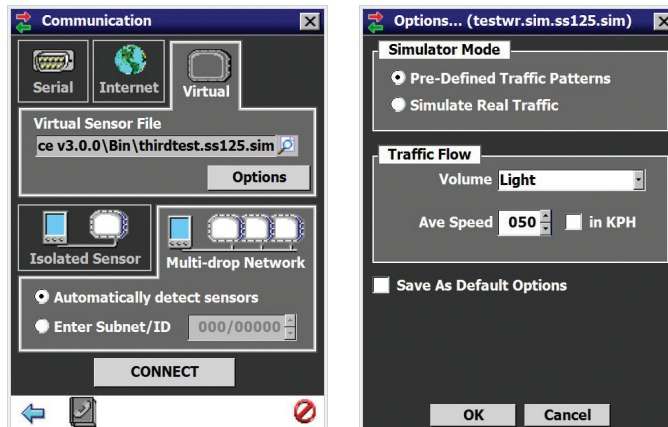

Figure 4.4 - Virtual Connection (left) and Virtual Options (right)
- 2 Select the **Virtual** tab (see Figure 4.4).